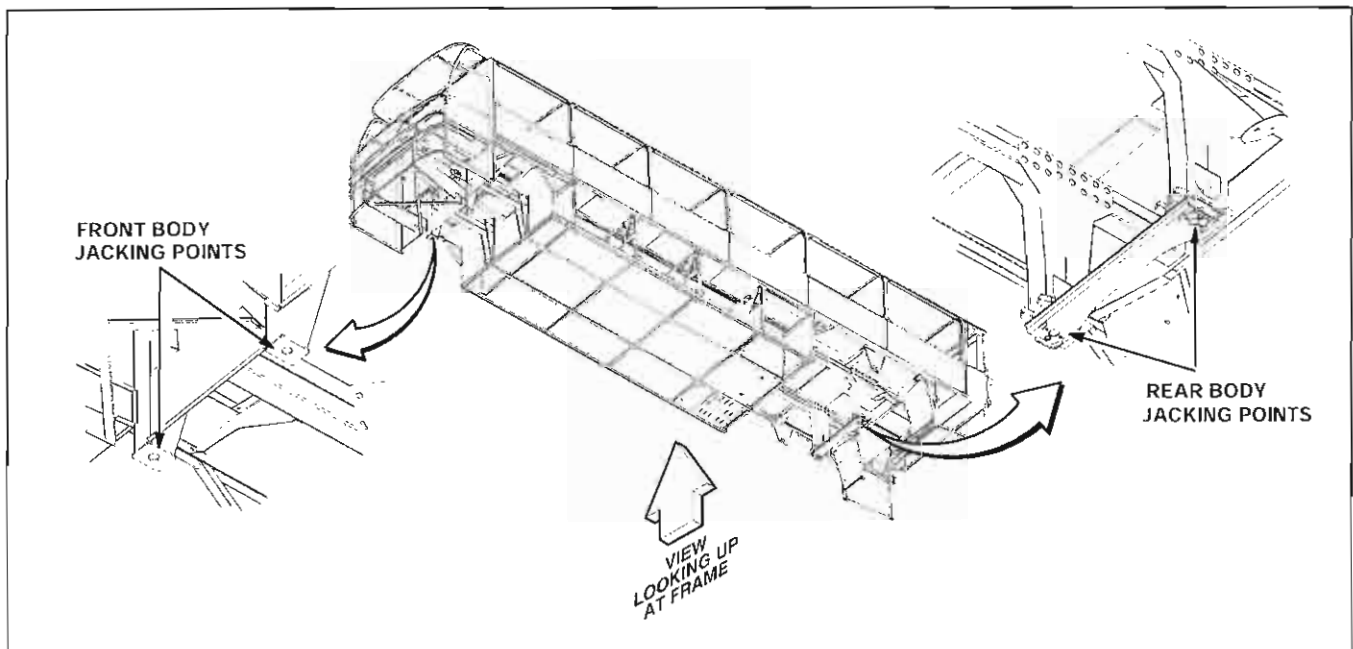

Figure 1. Underframe Jackstand Support Points ( Section 3H / Maintenance Manual )
*Raise the coach to the desired height. Position jackstands at the front and rear frame support points, according to Figure 1, to ensure that the coach is securely supported before attempting work underneath the coach.*